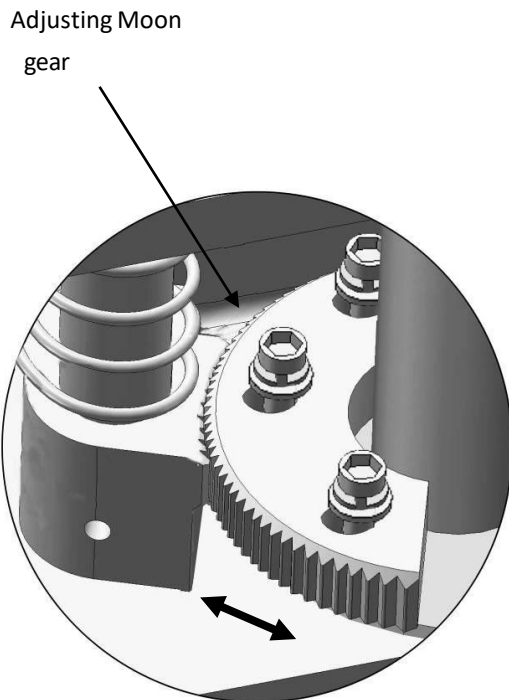

Fig. 37
3. Adjust moon gear as direction of arrow (See Fig. 37).